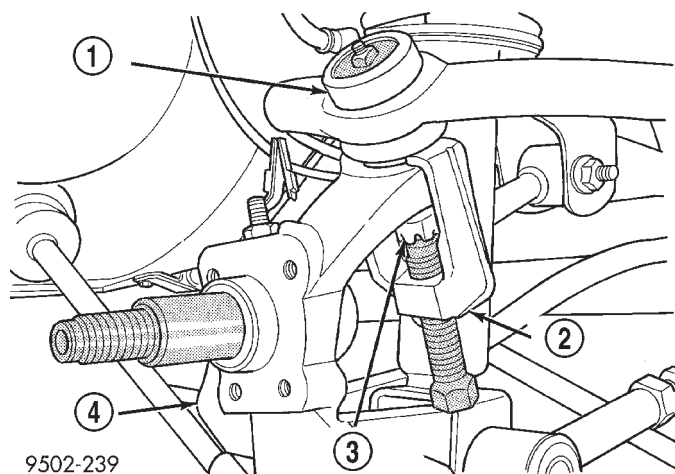

Fig. 24 Ball Joint Stud Removal From Knuckle
- Remove ball joint stud from knuckle using Puller, Special Tool, CT- 1106 (Fig. 24). When using puller, install castle nut on ball joint stud to protect threads from damage.